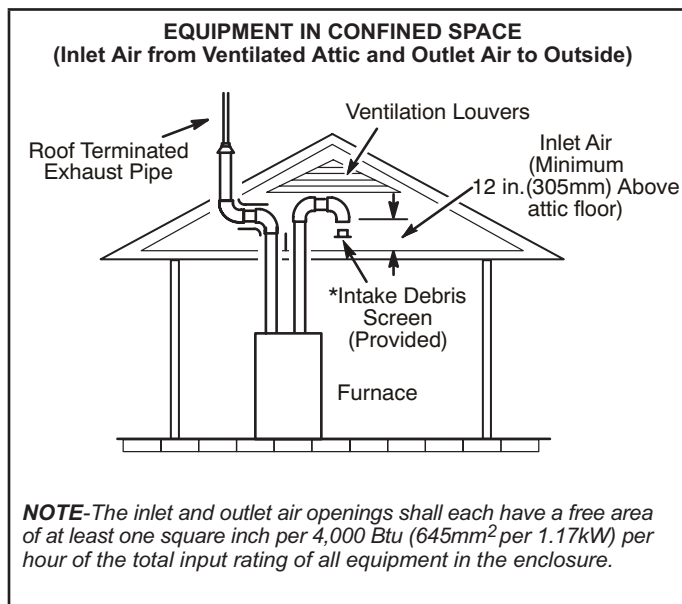
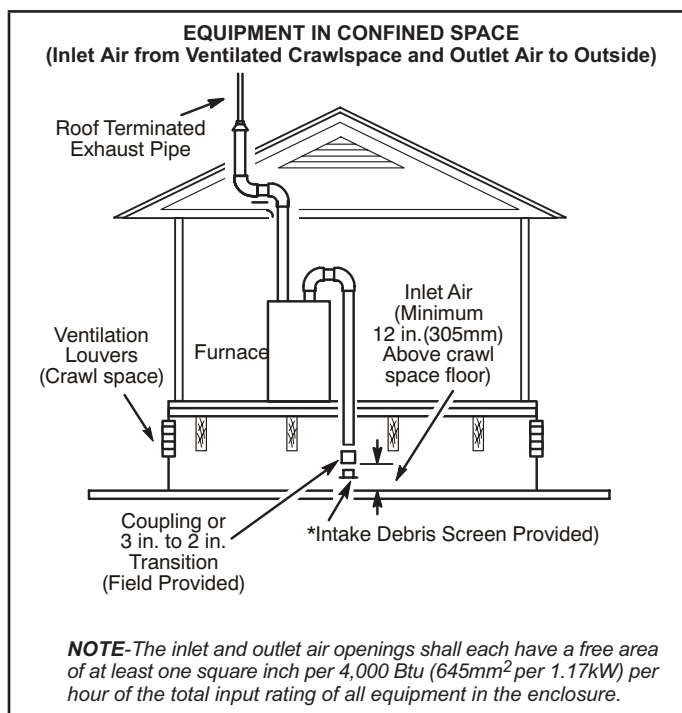

FIGURE 22
FIGURE 23
- 2 - If intake air is drawn from a ventilated attic (FIGURE 22) or ventilated crawlspace (FIGURE 23) the exhaust vent length must not exceed those listed in TABLE 21. If 3" diameter pipe is used, reduce to 2" diameter pipe at the termination point to accommodate the debris screen.